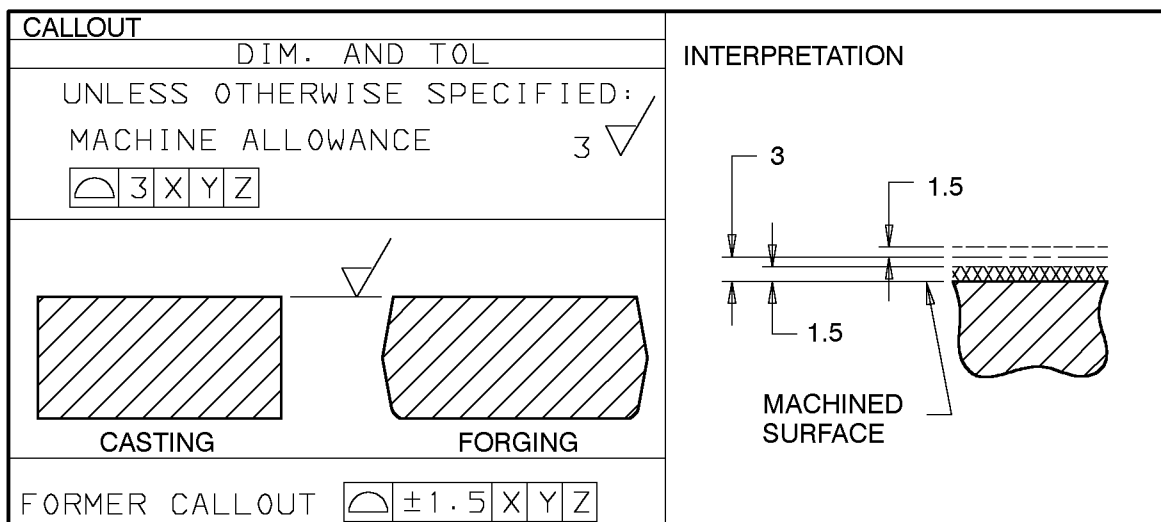

Figure 9 - Machine Allowance - Surface Without Draft
**10.2.1** In Figure 9, the drawing callout for both the casting and the forging shows a single machining required symbol  $\nabla$  on an extension line to indicate that the surface must be machined. The absence of a machine allowance value to the left of the machining required symbol indicates that the dimension for machine allowance  $3 \nabla$ , shown in the **DIM AND TOL** block applies.
**10.2.2** Castings and forgings that use the profile tolerance system are essentially pictures of the finished part and surfaces identified by a machining required symbol are shown as machined. In the interpretation in Figure 9, basic machine allowance is illustrated pictorially by a phantom line representing the rough surface of the basic profile of the casting or forging which lies 3 mm from the machined surface and is subject to the general 3 mm profile tolerance shown related to Datums X, Y, and Z in the **DIM AND TOL** block. The machine allowance varies from 1.5 to 4.5 mm.
**10.2.4** Using the data in the **DIM AND TOL** block in Figure 9, machine allowance varies from 1.5 to 4.5 mm representing minimum and maximum casting or forging size shown as dashed lines.